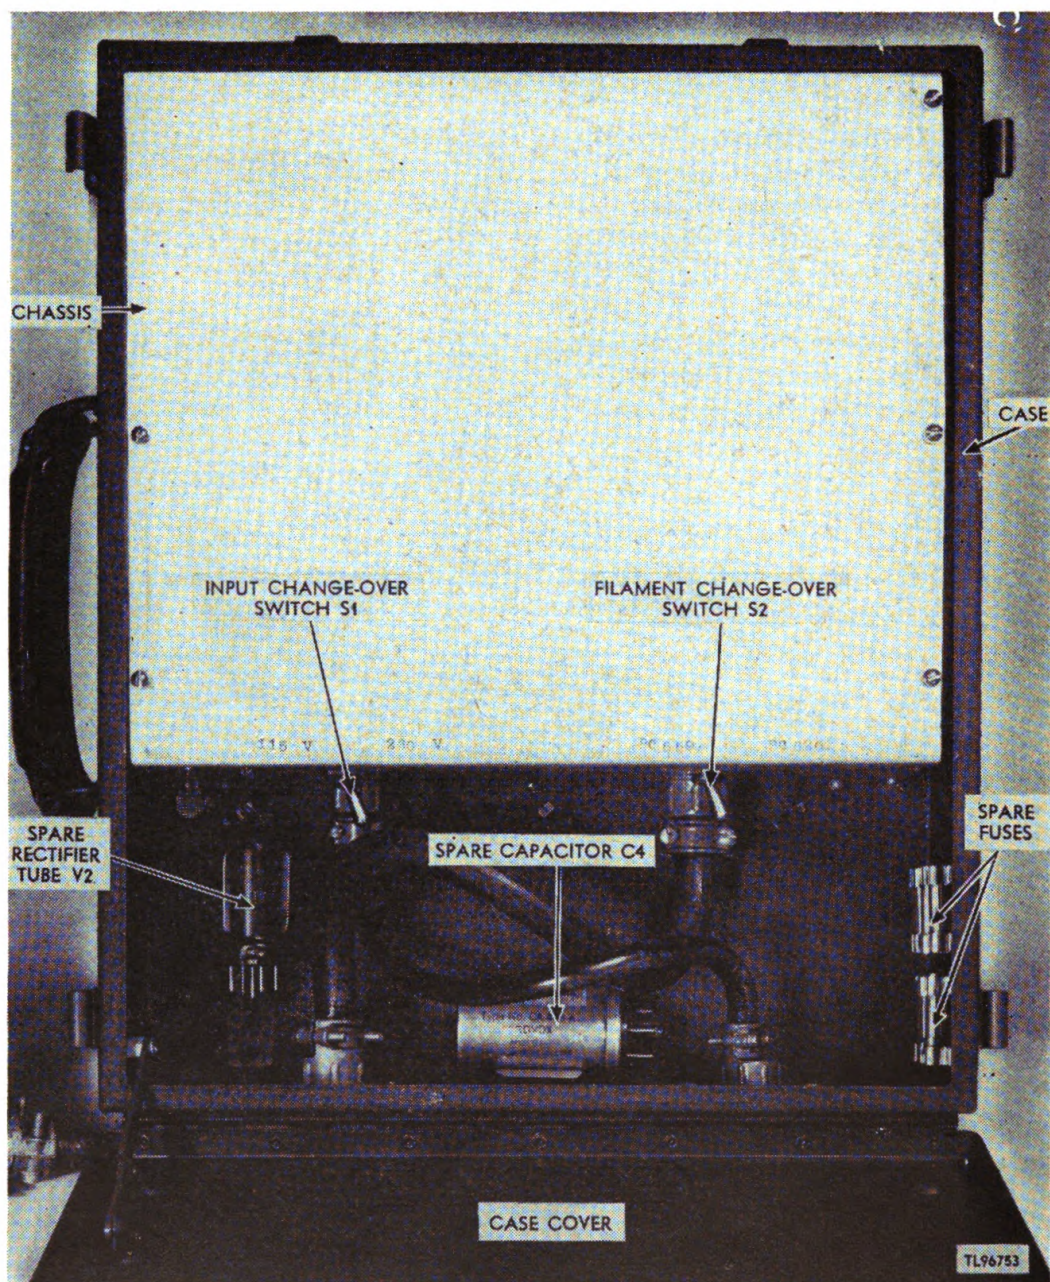

Figure 3. Rectifier RA-120, top view, case cover open.
4. PHYSICAL DESCRIPTION OF EQUIPMENT (fig. 3).
c. Set the input change-over switch to the proper input voltage (fig. 3).
d. Set the filament change-over switch to the position indicated for radio receiver and transmitter to be used (fig. 3).
10. CONTROLS AND THEIR USE (fig. 3).